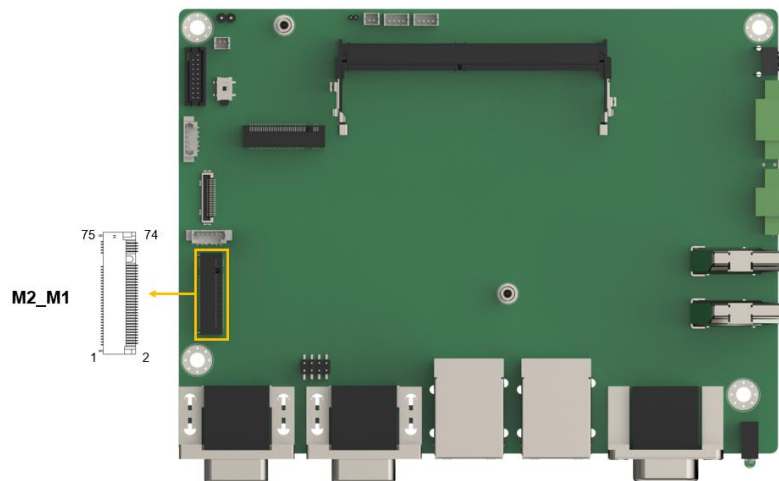

Figure 4-18: M.2 M-key Slot Location
- CN Location:** See **Figure 4-18**